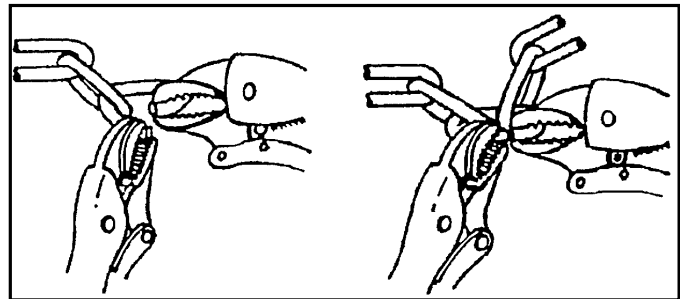

Fig. 11
2. Connect the hand chain ends together as shown in Fig 11. by twisting open the last link on one end of the chain, and slipping the last link on the opposite end onto the open link.